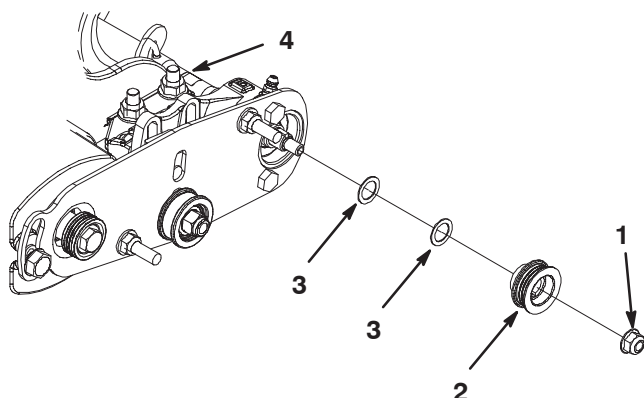

Figure 36
4. Remove the pulley from the shaft (Fig. 36).
5. If the pulley needs to move out, add one .032 thick spacer (Fig. 36). If the pulley needs to move in, remove the existing .032 thick spacer .